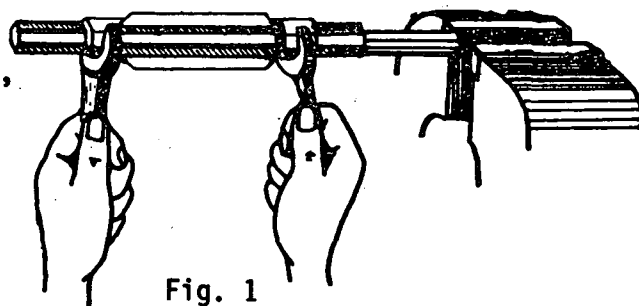

Fig. 1
- Increase or reduce the diameter of the reamer by loosening one nut and tightening the other (Fig. 1).